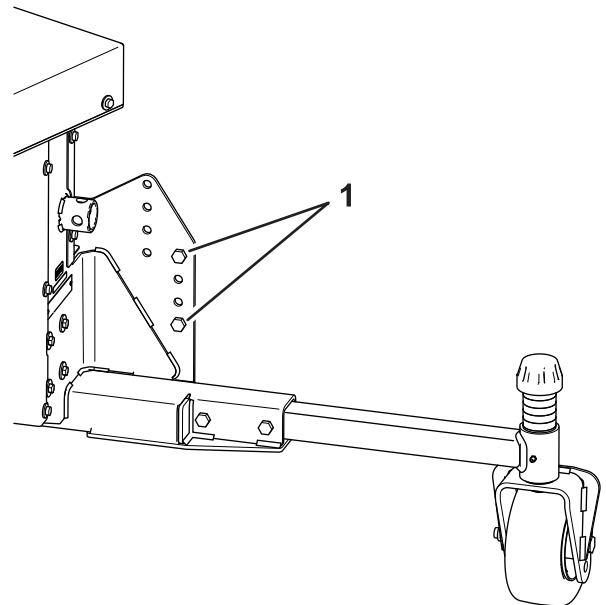

Figure 9
14. Slide the crate away from the blower and lower the blower until the castor wheels and jack stand touch the floor keeping the strap tight (Figure 9).